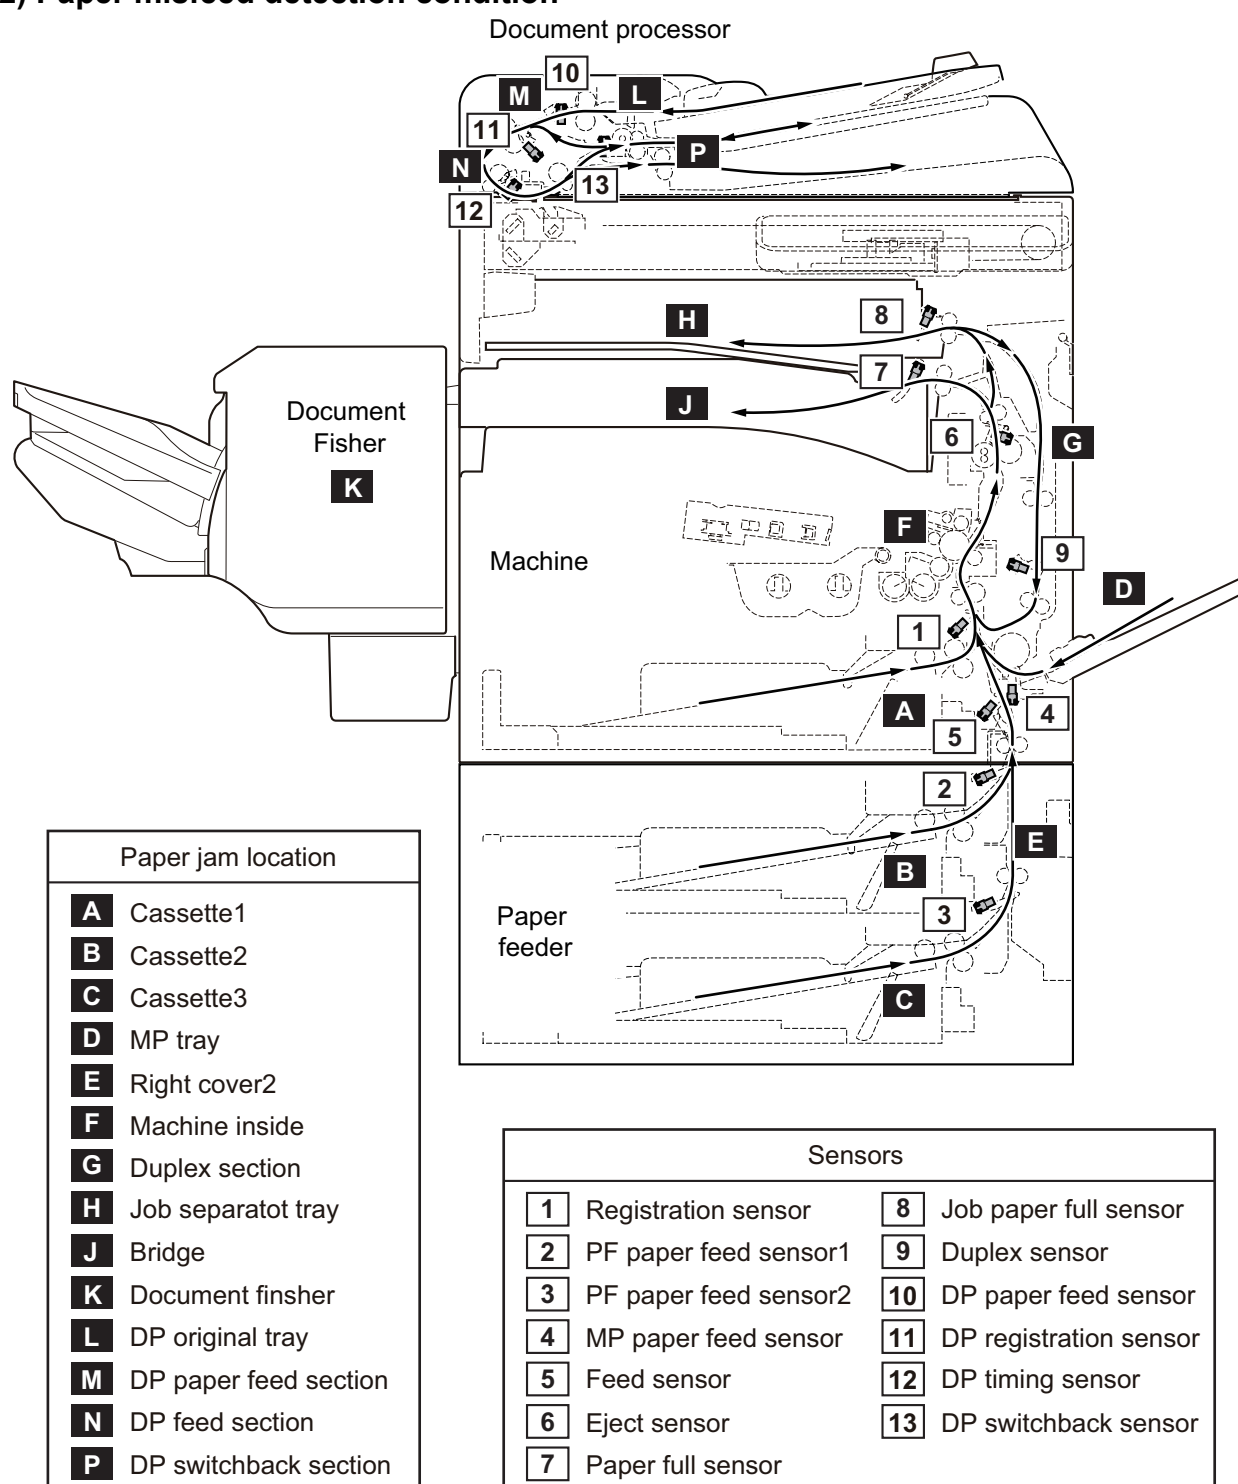

Figure 1-4-1 Paper jam location
*: Refer to figure 1-4-1 for paper jam location (see page 1-4-1).